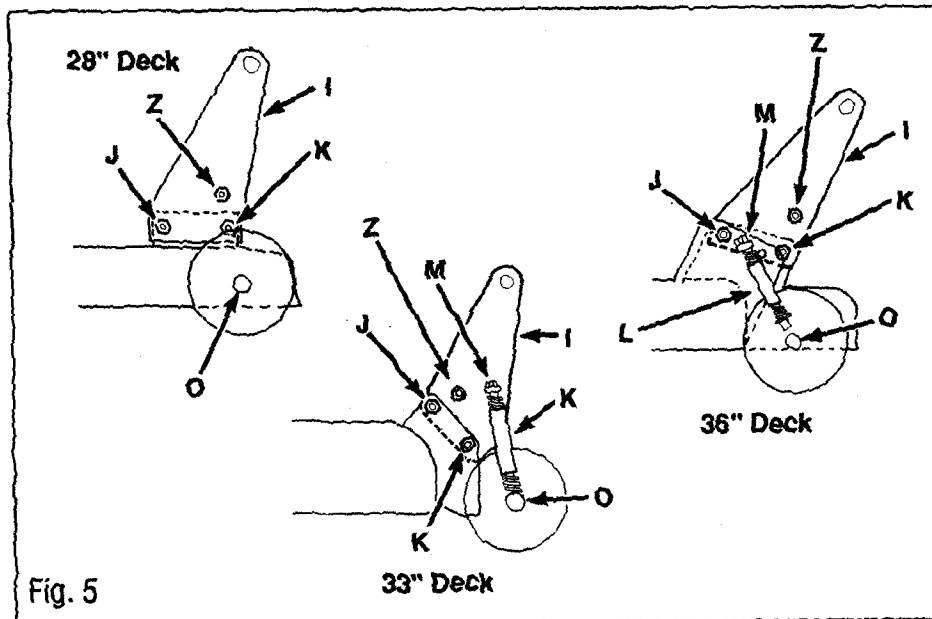

Fig. 5
- 33" DECKS:** Place lift plate (I) on *inside* of bracket on mower deck (See Fig. 5).
- 28" & 36" DECKS:** Place lift plate (I) on *inside* of bracket on mower deck (See Fig. 5).
- 28" & 36" DECKS:** Place pivot (M) into desired height setting hole in lift plate (I) and secure with washer and spring pin. See **GAGE WHEEL ADJUSTMENT** to determine proper height.
- Attach shoulder bolts (Z) to lift plates. Insert bolt from the inside. Secure with nut.